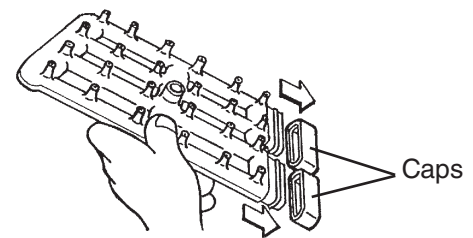

**Fig. 39**
- 6) Lift off the ice chute from the front frame pipe and then from the rear frame pipe. See Fig. 39.